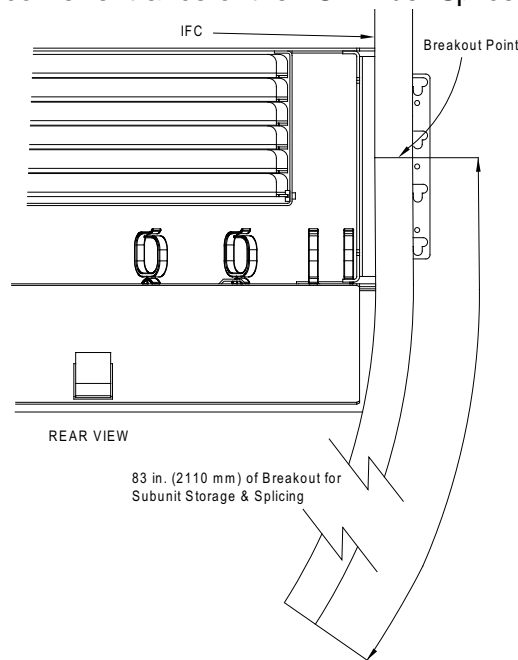

Figure 41 - IFC Breakout Length (2RU through 4RU)
1. Route IFC to a rear corner entrance of the LCX Fiber Splice Panel, as shown in Figure 41.